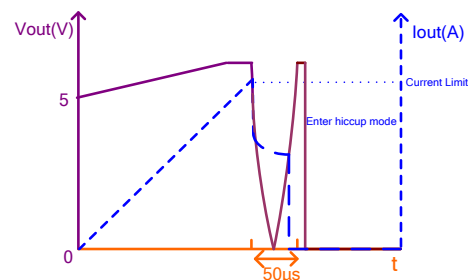

Figure 7: Over-Current Limit for CR Load
After the soft-start finishes, if the USB output voltage is lower than 3.5V and lasts longer than 50 μ s, the MPQ4481 enters hiccup mode without having to wait 5ms (see Figure 7). This can prevent an abnormal thermal rise during the constant resistor (CR) load over-current case.